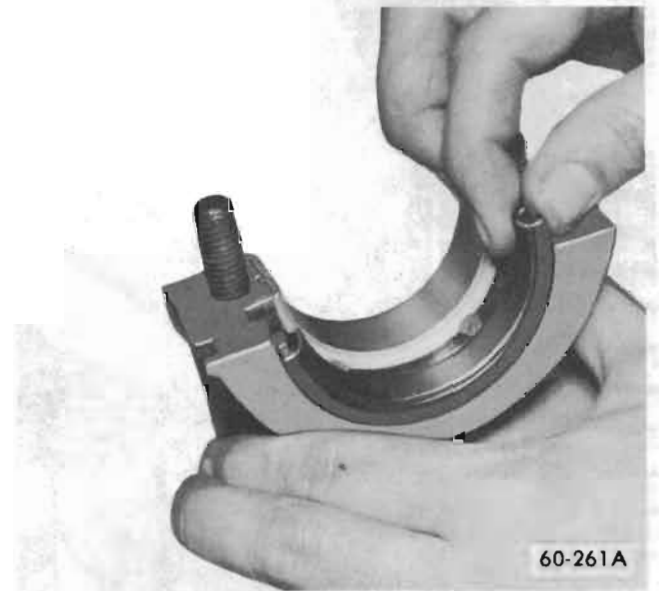

Figure 60-27 - Removing Rear Main Oil Seal (Lower)
2. Remove oil seal from the groove by lifting the end tab then clean seal groove. See Figure 60-27.